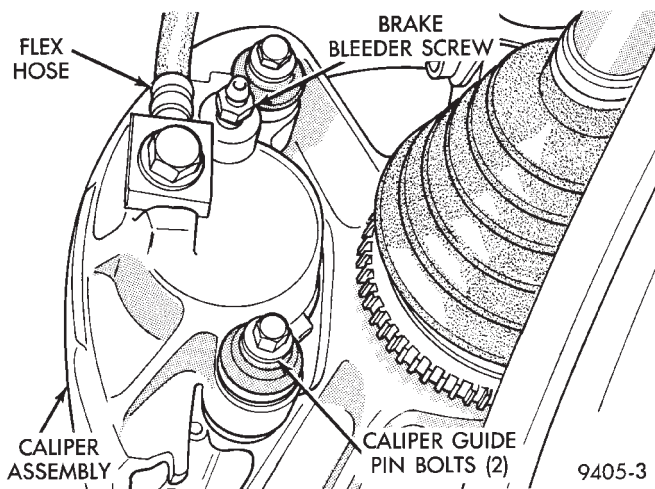

Fig. 31 Open Bleeder Screw at Least One Full Turn
(2) Open the bleeder screw at least **one full turn** or more to obtain an steady stream of brake fluid (Fig. 31).